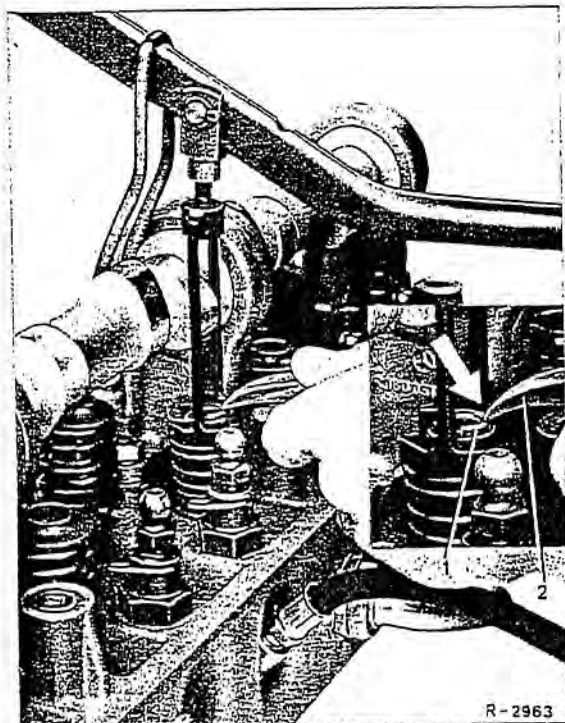

Fig. 05-2/1
5. Use special tool to press the valve spring retainer downward far enough so that the valve cone halves (1) are free and can be lifted out with the aid of the magnetic lifting device (2) (Fig. 05-2/1).
Note: On diesel engines unscrew cap nut and lock nut (Fig. 05-2/3) instead of valve cone halves.
6. Remove valve spring retainer, valve spring and valve spring seal as required (Figs. 05-2/3 to 13).